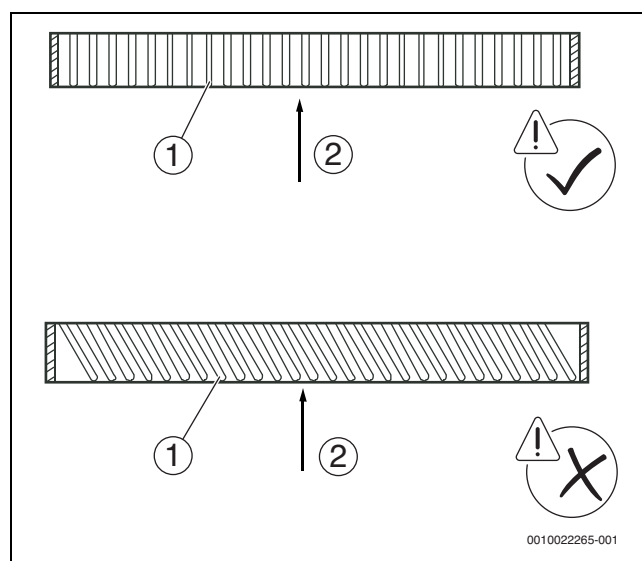

Fig. 80
- Make sure the air inlet grilles are angled such that they are parallel to the direction of the air inlet. There should be no angle between the air inlet grille and the direction of the air inlet, otherwise the noise level will increase (→ figure 80).